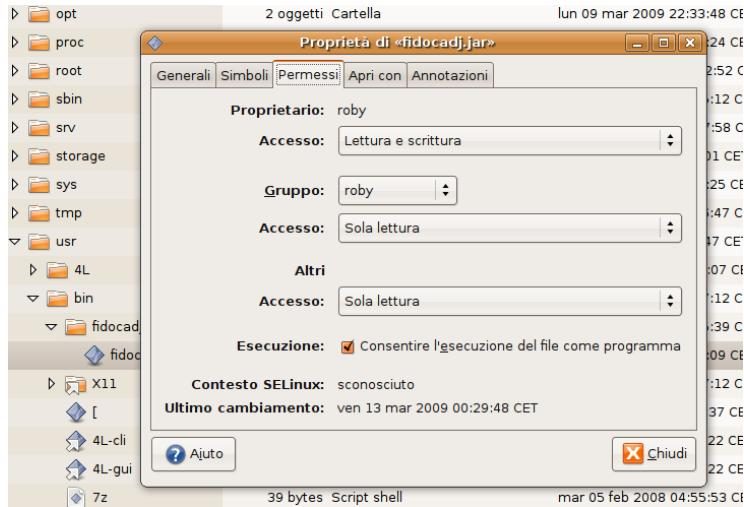

Figure A.1: The setting of file rights, on Ubuntu 8.04.
- Right click on the file, from the window we select the tab “rights”, we add the check mark in front of the “Allow the execution of the file as a program”, as shown in the figure A.1